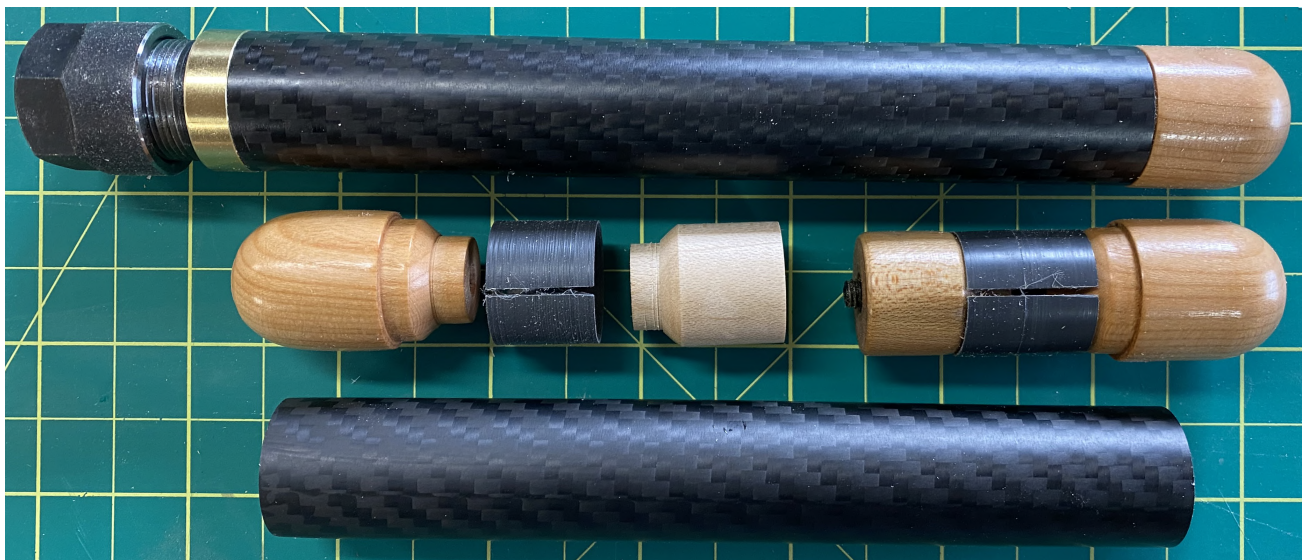

Figure 2. A completed handle and its components.
I start out with two purchased items: the first is a C20-ER16 collet holder meant for attaching to a 10mm motor shaft (<https://www.amazon.ca/C20-ER16-40L-Spindle-Clamping-Toolchuck-Fafeicyvsh3pzu2cr-03/dp/B0CY3KWXJL/>), and the second is a carbon fiber (CF) tube, 22mm od \times 20mm id. It just so happens that this combination means that the collet holder can be glued directly into the carbon fiber tube using epoxy glue. In order to protect your hands and the CF tube I also glue on a brass ring of the appropriate size. I find that a brass $\frac{3}{4}$ " PEX to $\frac{3}{4}$ " copper tube fitting is almost exactly the right outside diameter to match the outside diameter of the 22mm CF tube. The inside of the fitting is just a bit too tight to fit over the C20-ER16-40L holder, so it needs to be hollowed out a bit. (I can get three of these bands out of one PEX fitting). I turn these out using a Taig lathe, but it could be done on your regular lathe with some care. I use a small section of a $\frac{3}{4}$ " id bushing to slip over the M19 threaded portion of the collet holder to line up the brass ring and the CF tube to ensure it all stays aligned during the glue up. These components can be seen in Figure 2 below.
The turned retaining end is now ready for the insertion of the M5 brass insert which is done with the M5 cap screw drawing in the insert. The three pieces are then put together as in Figure 2, then inserted in the end of the CF tube and the M5 cap screw tightened up to expand the PVC bushing, locking in the end cap to the handle.